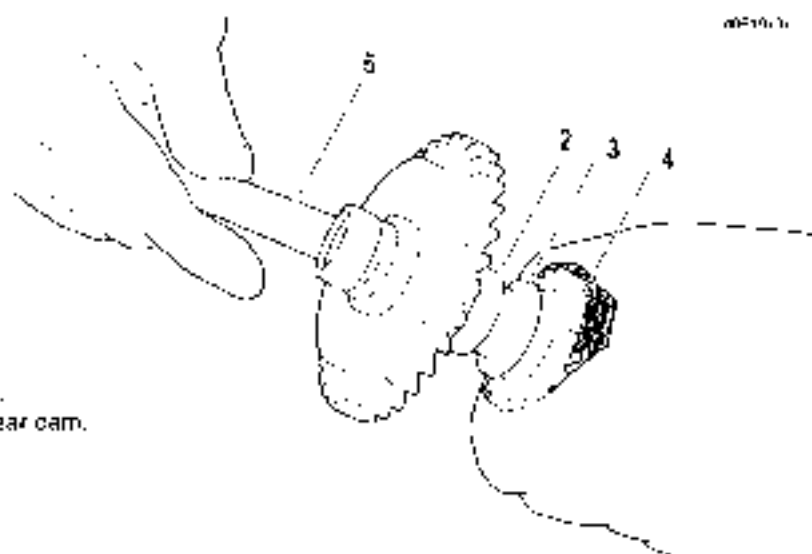

Figure 3-134. Remove/Install Bearing Inner Race (With O-Ring and Thrust Washer) Onto Rear Camshaft
- d. See A of Figure 3-134. Using a 5/8 in. box wrench (1), turn locking screw until bearing inner race (2) and thrust washer (3) are pulled free of camshaft. A light interference fit allows the parts to be removed with little effort. Discard inner race and thrust washer.
- e. See B of Figure 3-134. Wrap a shop rag (4) around camshaft to get a firm grip and also to protect hand from sharp edges of sprocket. Using a 9/16 in. box wrench (c), turn flange bolt in a clockwise direction. Bearing inner race (2) is fully installed when it makes firm contact with the thrust washer (d).